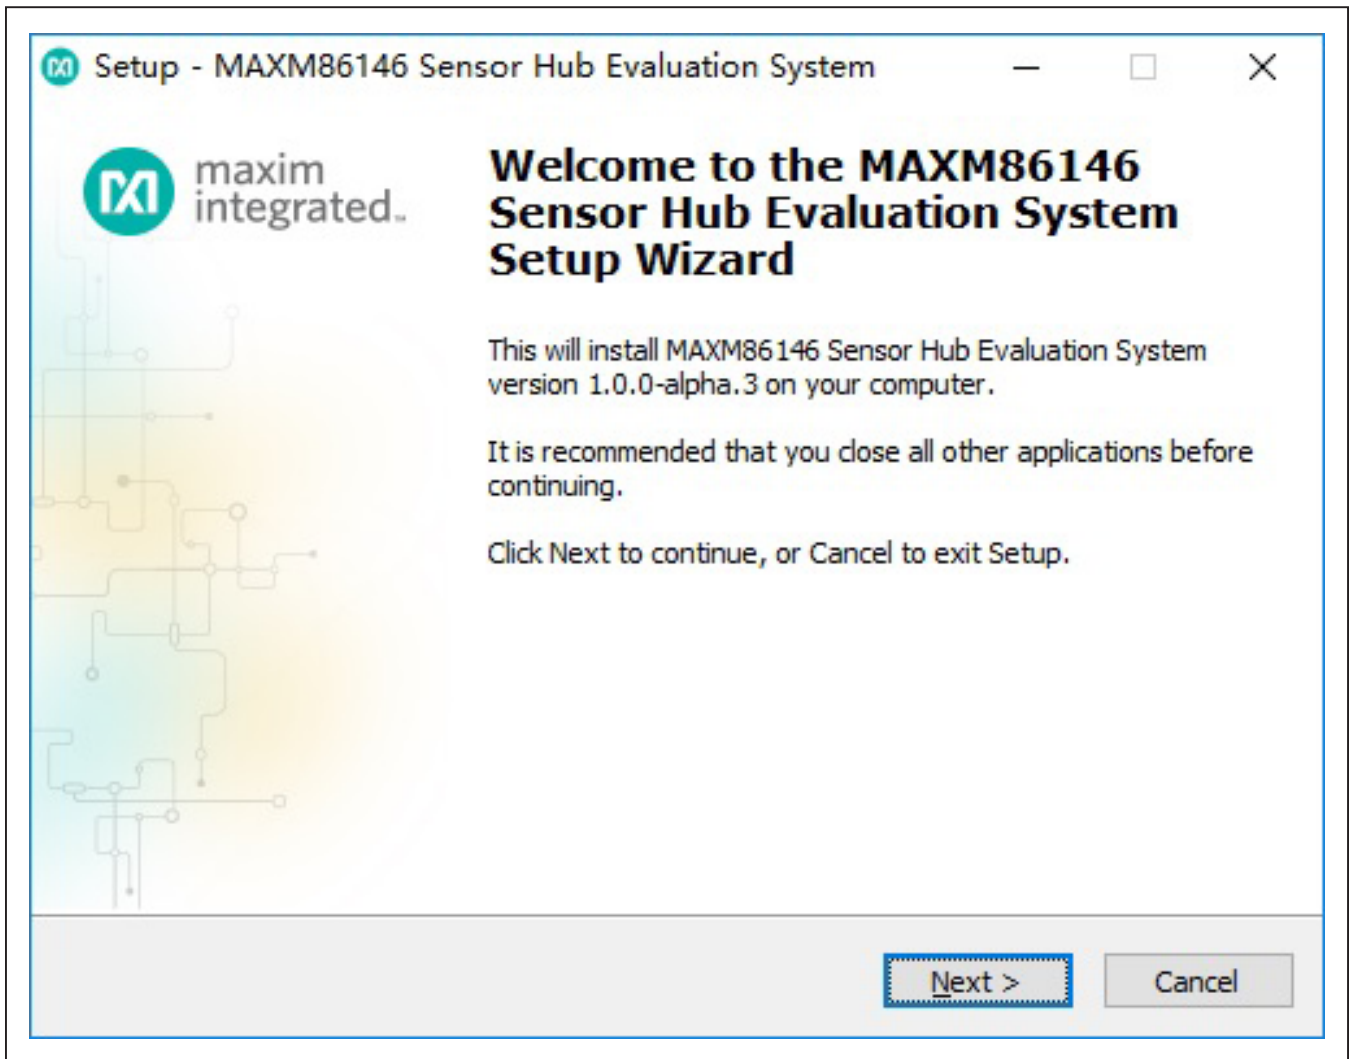
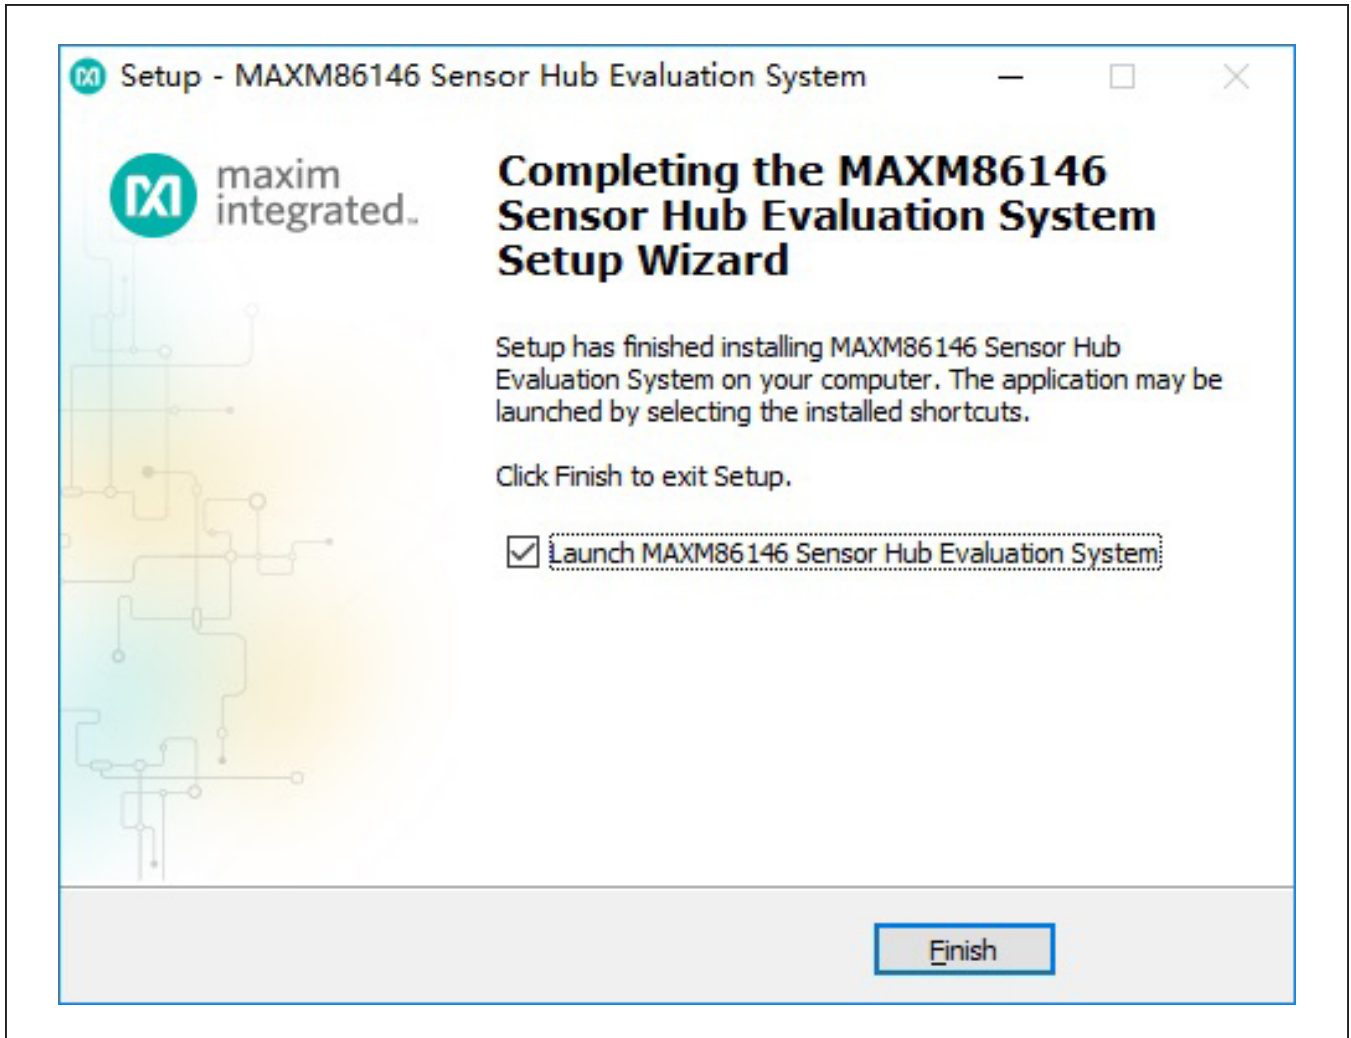

Figure 1. Setup MAXM86146 EV System GUI Software Step 1
Figure 7. Setup MAXM86146 EV System GUI Software Step 7
- 3) Open up MAXM86146GUISetupVxxx.exe and follow the instructions from the pop-up windows as shown in Figure 1 to Figure 7.